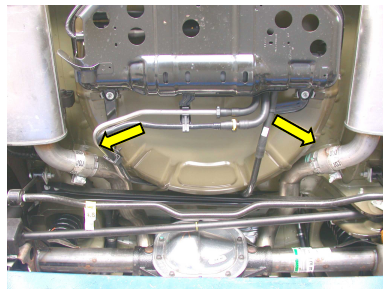

Figure 2
2. Loosen the clamps shown in figure 2 located just in front of each muffler assembly.